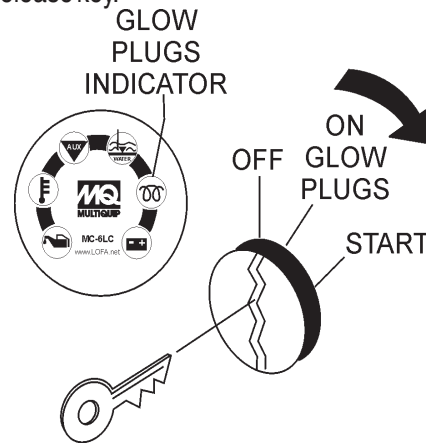

Figure 20. Ignition Switch
6. Insert ignition key into ignition switch (Figure 20), turn key clockwise until glow plug indicator light turns **ON**, keep key in this position until glow plug indicator light turns **OFF**. Continue turning ignition all the way clockwise until engine starts, release key.